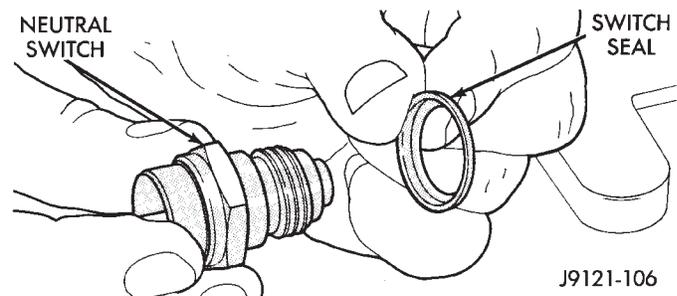

Fig. 152 Park/Neutral Position Switch Seal Position
(33) Install new filter on valve body. Tighten filter screws to 4 N·m (35 in. lbs.).
(34) Adjust front and rear bands.
(35) Install seal on park/neutral position switch (Fig. 152). Then install and tighten switch to 34 N·m (25 ft. lbs.).